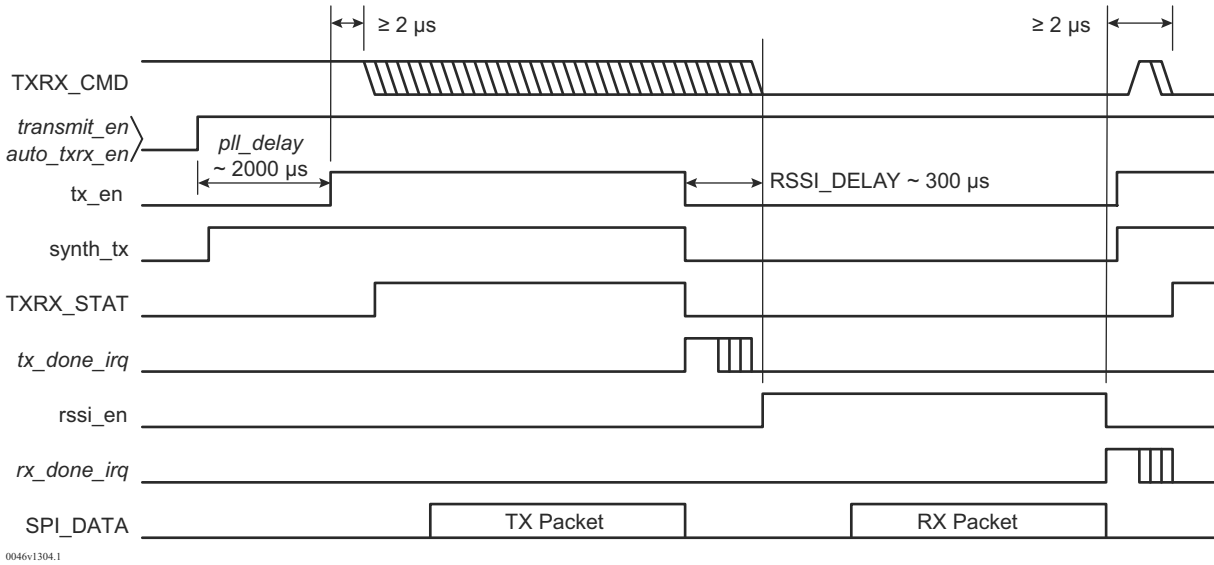

Figure 9-10 • Bidirectional Streaming Startup in Bit-Count Mode, with TXRX_CMD High
Figure 9-10 shows the alternative use of TXRX_CMD to start a bidirectional streaming session in bit-count mode. In this case, TXRX_CMD is initialized high and then lowered some time after the PLL delay. The options for setting TXRX_CMD low after the first packet are: (1) wait for 2002 μ s (the 2000- μ s PLL delay plus 2 μ s), or (2) wait for TXRX_STAT to go high.